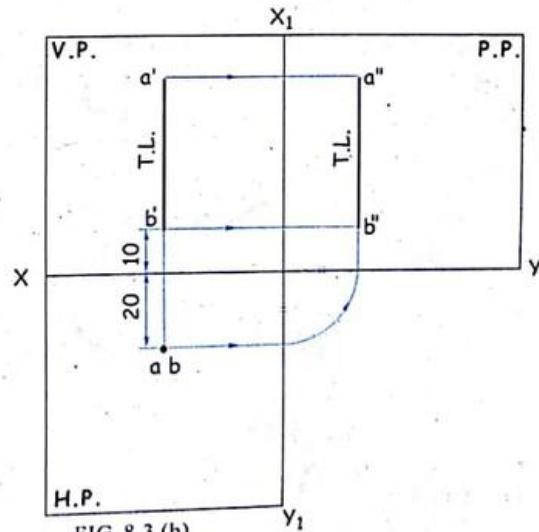

FIG. 8.3 (b)
- The end points A and B of line AB are projected on the V.P., the H.P. and the P.P. giving the projections F.V. ($a'b'$), T.V. (ab) and S.V. ($a''b''$) as shown in figure 8.3 (a).